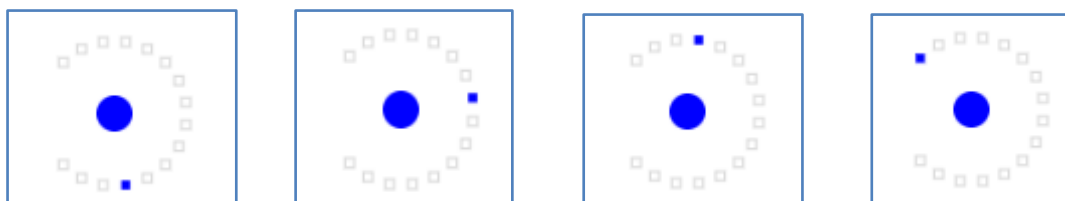

Figure 16 Circular LED status
- The user inputs for the circular LEDs controlled using encoder button by turning clockwise and counter clockwise is reflected on the web-interface for all possible positions. The encoder RGB LED will stay blue in color. Few of them are shown in the below *Figure 16 Circular LED status*